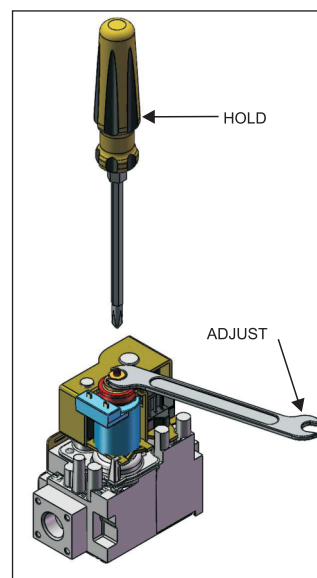

FIG 40
3. Put the remote on Manual Mode (see section **Operation** on **page 6**), and set the heater to Level 3. Put screwdriver in position shown in **FIG 40** and use a spanner to adjust the outer nut below in order to give a high pressure reading (refer to specification table on **page 9 & 11**). (**Turn clockwise to increase pressure and anticlockwise to decrease pressure**).